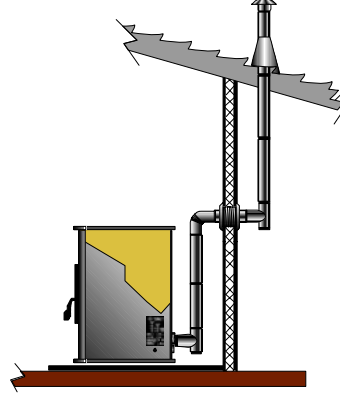

Figure 24
-  **HORIZONTAL, OUT THE WALL, THEN VERTICAL THROUGH THE EVES AND ROOF**, terminating with a rain cap. Figure 24.